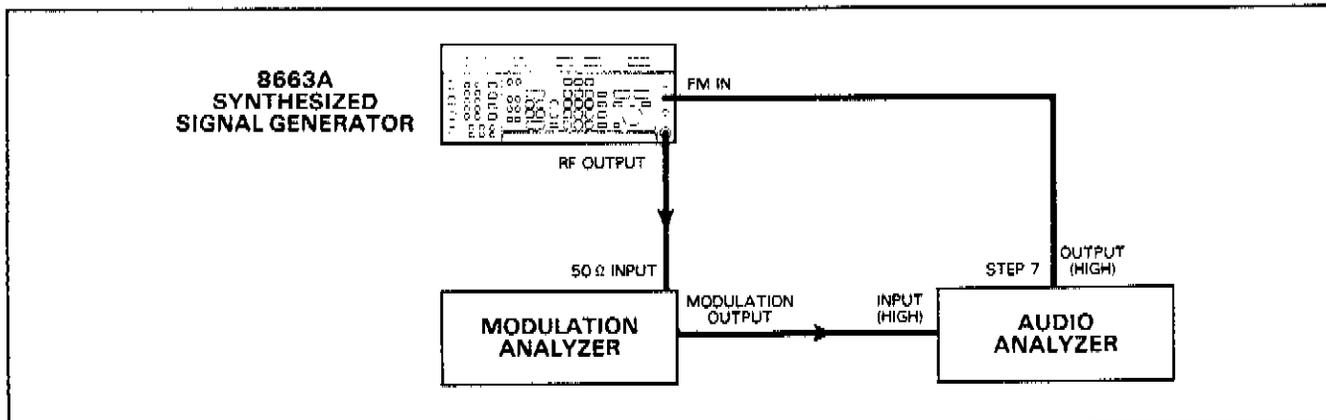

Figure 4-3. AM and FM Test Setup
1. Connect the instruments as shown in Figure 4-3 and apply power. Set the Generator's output amplitude to +10.0 dBm. Set the Modulation Analyzer as follows:
7. Connect the instruments as shown in Figure 4-3. Set the Generator to 100.0 MHz, 100 kHz FM deviation and EXT AC source. Set the Audio Analyzer's output frequency to 1 kHz. Adjust the output level of the Audio Analyzer for approximately 1.49V or until the EXT MOD HI/LO indicators on the signal generator go out. Set the modulation analyzer to measure FM with all filters off. The measured distortion should be less than 1.0%.